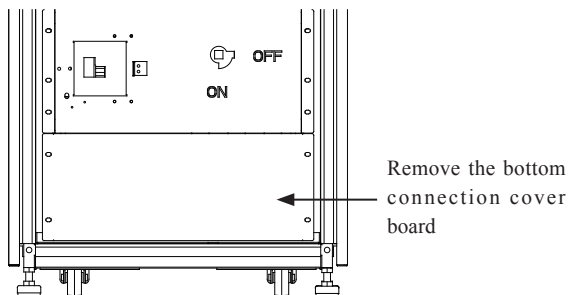

Fig. 5-8
- 1) Remove the front terminal block cover and bottom connection cover board (see Fig. 5-8).